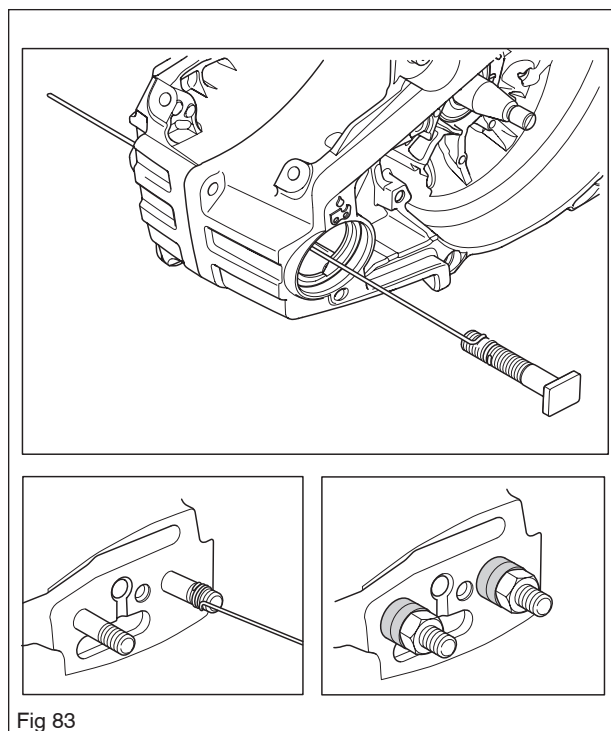

Fig 83
4. Attach a wire to the head of the bar bolt, lower the wire through the oil tank and out through the bolt opening in the crankcase. See figure 83.
5. Pull out the bar bolt so that it protrudes from its opening. See figure 83.
6. Pull out the bar bolt with its nut. Insert a spacer between the nut and the crankcase. See figure 83.